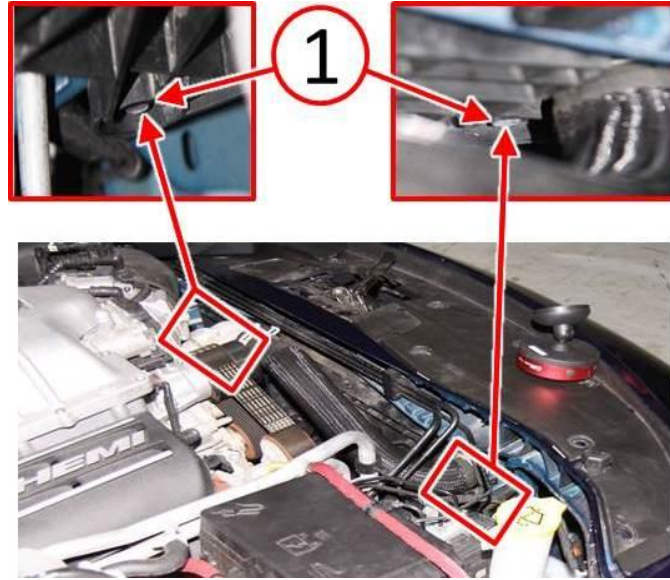

Fig. 4 Remove Cooling Fan Mounting Bolts
8. Remove the radiator fan mounting bolts (1) (Fig. 4).